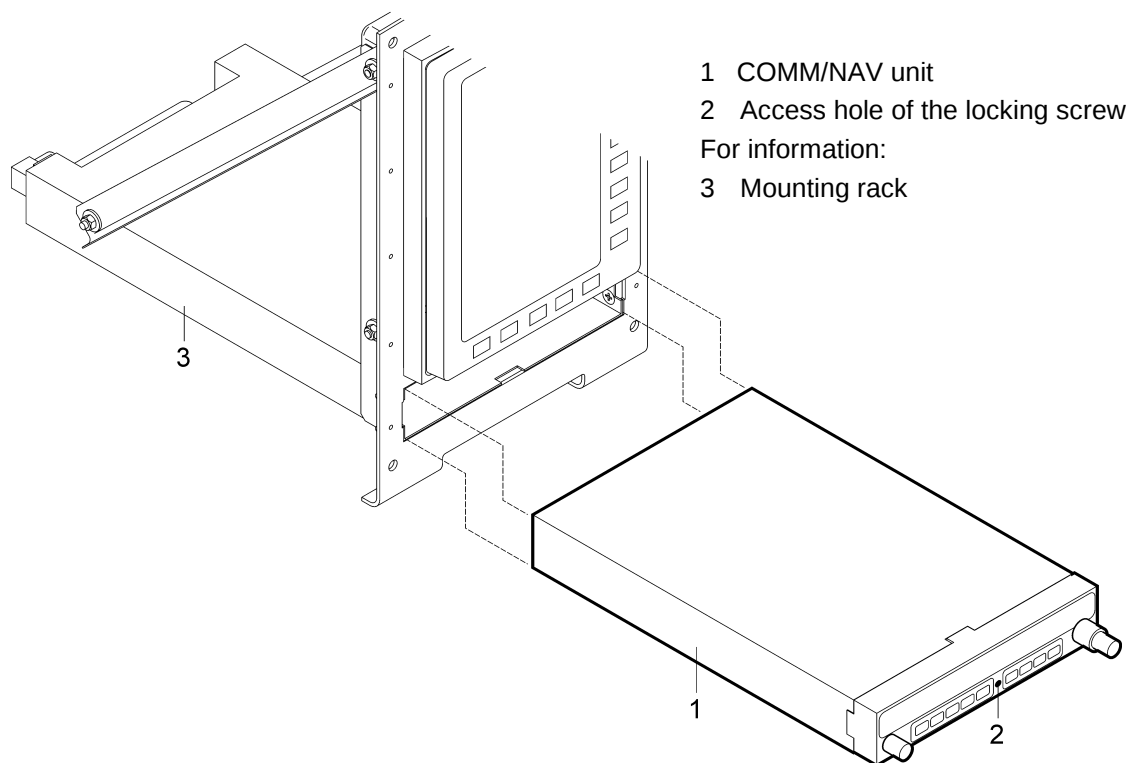

Fig. 12-32: COMM / NAV unit removal / installation
(b) Put a 3/32 Allen wrench into the access hole (2, Fig. 12-32) for the locking screw; engage the screw.
- (c) Slide the unit (1, Fig. 12-32) into the rack (3). Engage the locking screw so that the latch front lobe touches the rack.